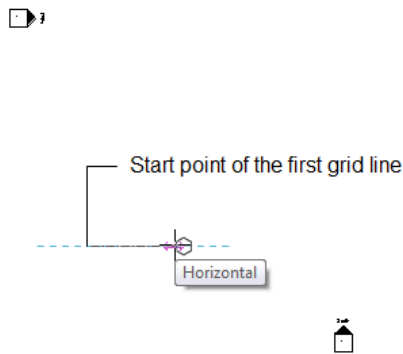

Figure 3-56 The location for the start point of the first horizontal grid line
3. Ensure that the **Line** tool is invoked from the list box in the **Draw** panel of this tab. Then, move the cursor toward the lower left corner of the drawing area (near the **South** elevation arrow) and click; a grid line emerges, as shown in Figure 3-56.